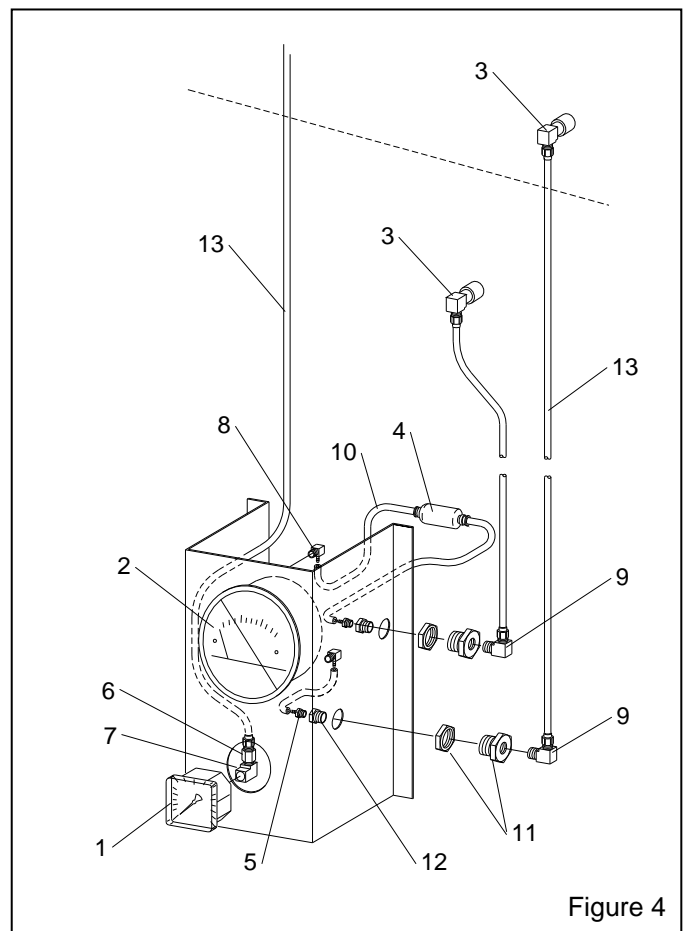

Figure 4
8.1 Differential Pressure Panel Assembly, Figure 4